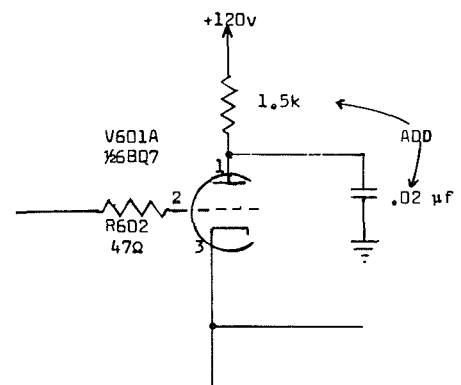

Figure 4. Type 524D/524AD Time-Mark Generator for serial numbers 1843 and up (partial schematic).
1. Refer to Figure 4. Decouple the 120 v plate supply of V601A by adding a 1.5 k, 1 w, 10% composition resistor (Tek no. 304-152) and a 0.02 μ f, 600 v discap (Tek no. 283-006) as shown in Figure 4.